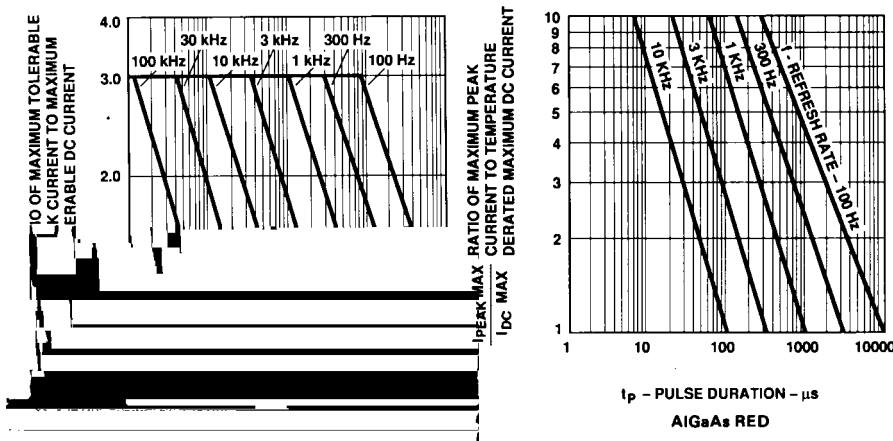

Figure 5. Maximum Tolerable Peak Current vs. Peak Duration ($I_{PEAK} MAX$ Determined from Temperature Derated $I_{DC} MAX$).
- See Figure 5 to establish pulsed operating conditions.